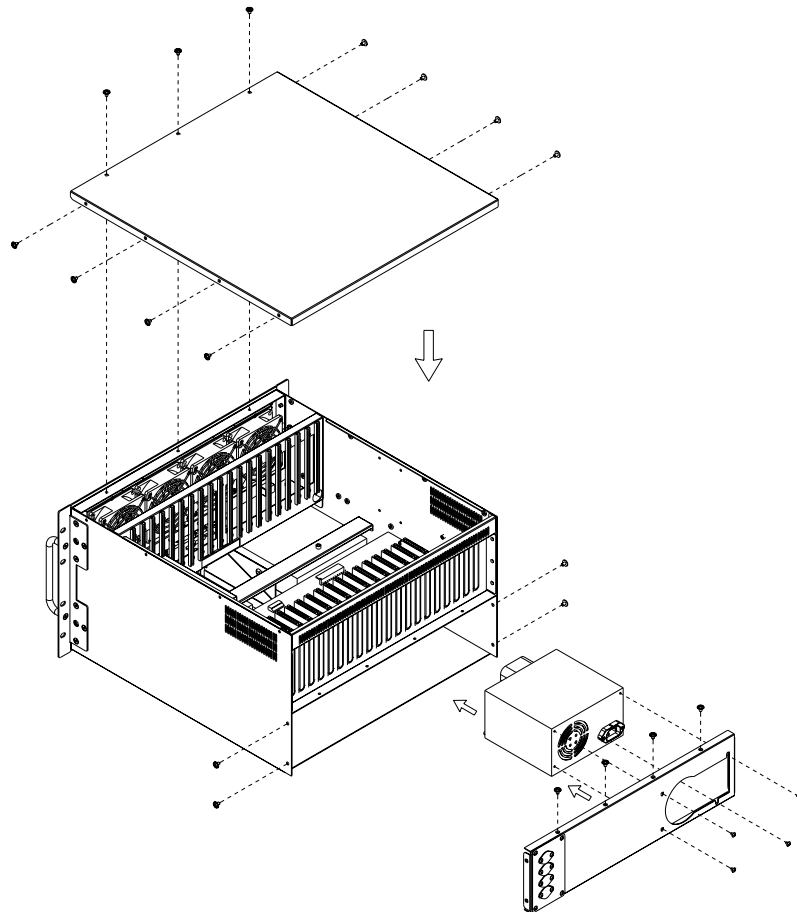

Figure 3.7 Replacing the single power supply
5. Remove the four screws which mount the power supply to the rear plate, then remove the rear lower plate and take out the power supply. Please see Figure 3.7.